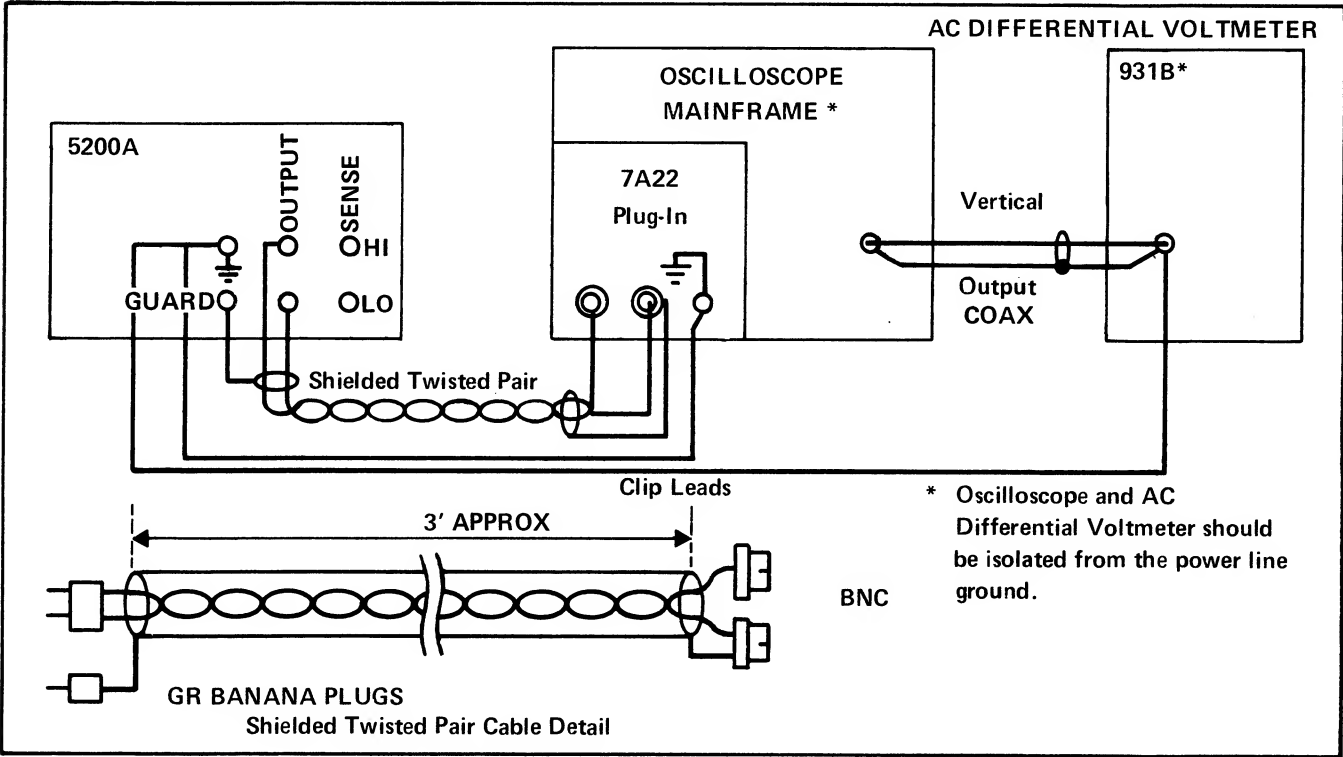

Figure 4-4. OUTPUT ACCURACY MILLIVOLT CONFIGURATION
- g. Connect the equipment as shown in Figure 4-4 for the remainder of the test.